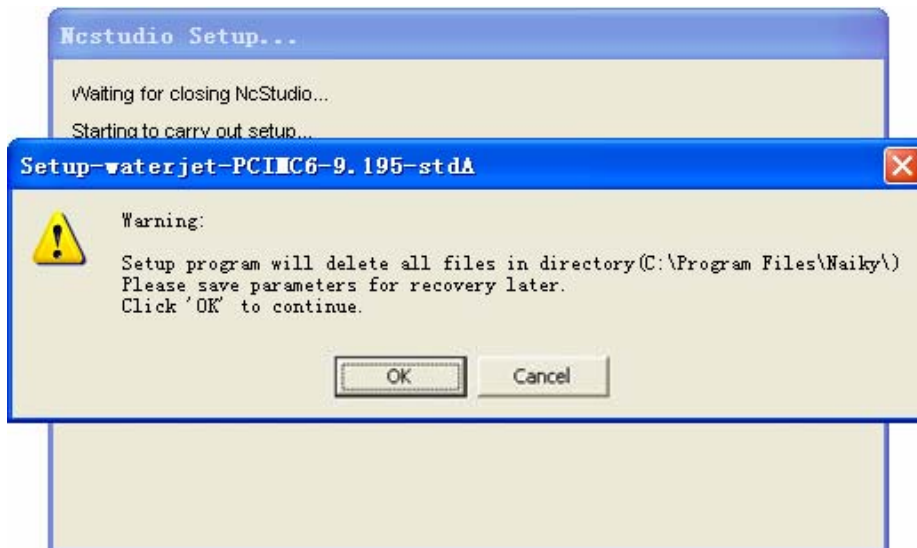

Fig. 2-3 Remind user to save parameters before installation
Click [Yes (Y)]. In order to avoid disturbance, system will ask you to save parameters and delete the old version before going on further installation. As Fig.2-3, it is the prompt to save parameters before installation.